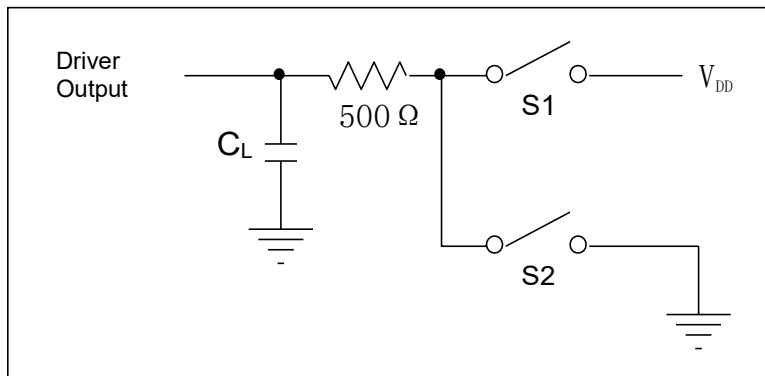

Figure 3 Driver Enable/Disable Timing Test
- Test circuit diagrams see Figure 3